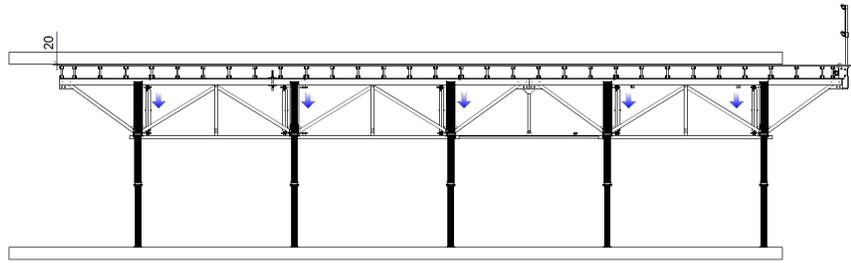

Fig. A3.01
1. Strike the table using the Quick Lowering Device. (Fig. A3.01)